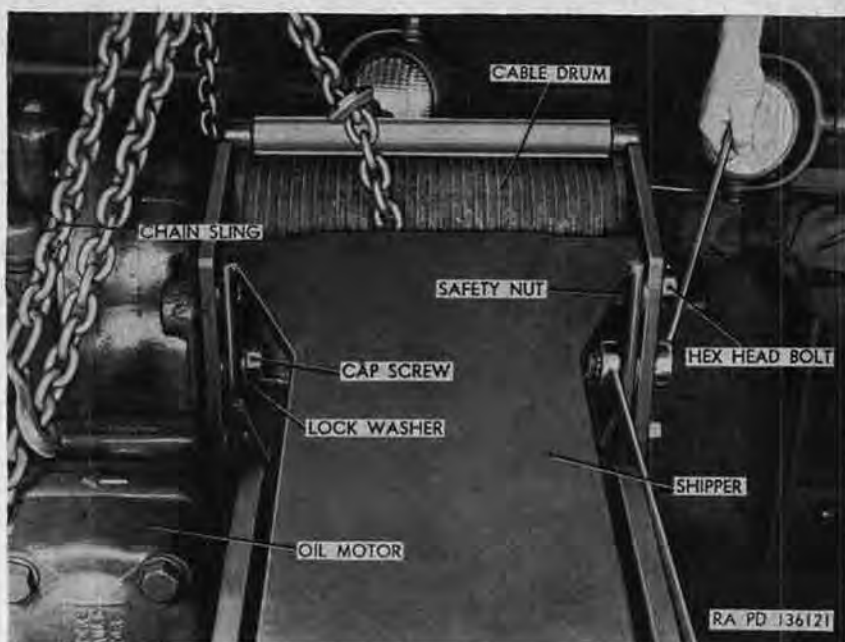

Figure 307. Removing boom hoist hydraulic oil motor and cable drum M62 and M246.
- (1) Remove hoist cable from drum (c below).
- (2) Attach a chain sling (fig. 307) to oil motor and cable drum assembly, attach overhead hoisting equipment to sling, and just support weight of assembly with hoist.
- (4) Remove three cap screws (fig. 307) and lockwashers securing right end of cable drums to shipper.
- (5) Remove three safety nuts (fig. 307) and hex-head bolts securing left end of cable drum to shipper, lift oil motor and drum assembly from shipper, and remove from vehicle.
- (1) Using overhead hoisting equipment, lift boom hoist hydraulic oil motor and cable drum (fig. 307) into position at rear of shipper.
- (2) Aline mounting holes in left end of cable drum with holes in shipper (fig. 307), and insert three hex-head bolts through holes. Install three safety nuts on bolts and tighten.
- (3) Install three cap screws (fig. 307) with lockwashers in holes in shipper and right end of cable drum, and tighten screws.
- (4) Remove overhead hoisting equipment and chain sling from oil motor and cable drum.